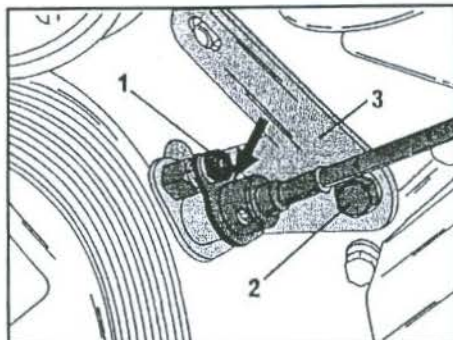

Fig. 1.64 – The TDC transmitter is fitted to the timing cover, shown here for a 4-cylinder engine.
- Remove the T.D.C. transmitter (indicates electrically when the piston of No. 1 cylinder is at T.D.C. firing point). To do this, remove the nut (1) in Fig. 1.64, free the cable from the bracket (3) and place the cable to one side, where it is out of the way. On a five-cylinder engine the T.D.C. transmitter has been moved to the R.H. side of the timing cover.